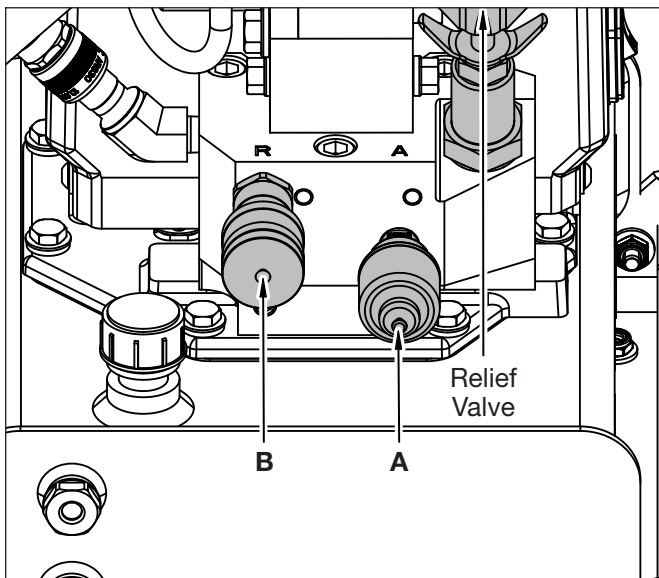

Figure 3: Pump Outlet
1. Loosen locknut and back out (turn counter-clockwise) relief valve to prevent unintended pressure build-up. No tools are needed to adjust the relief valve. See Figure 3.
3. Couple hoses to pump outlet manifold shown in Figure 3. BE SURE to use hose rated to 10,000 PSI [700 bar]. Hand tighten coupler lock rings
2. Loosen locknut and back out relief valve to prevent unintended pressure build-up. See Figure 3.